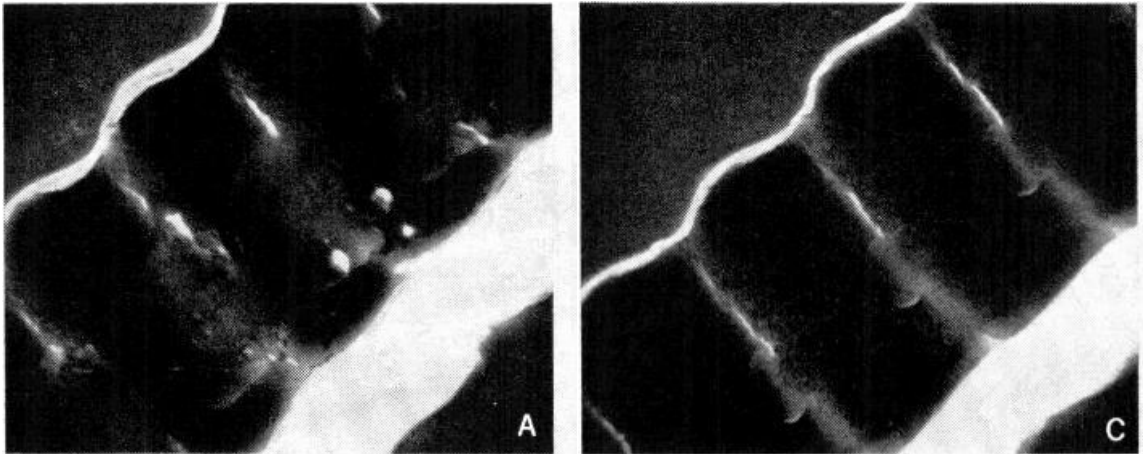
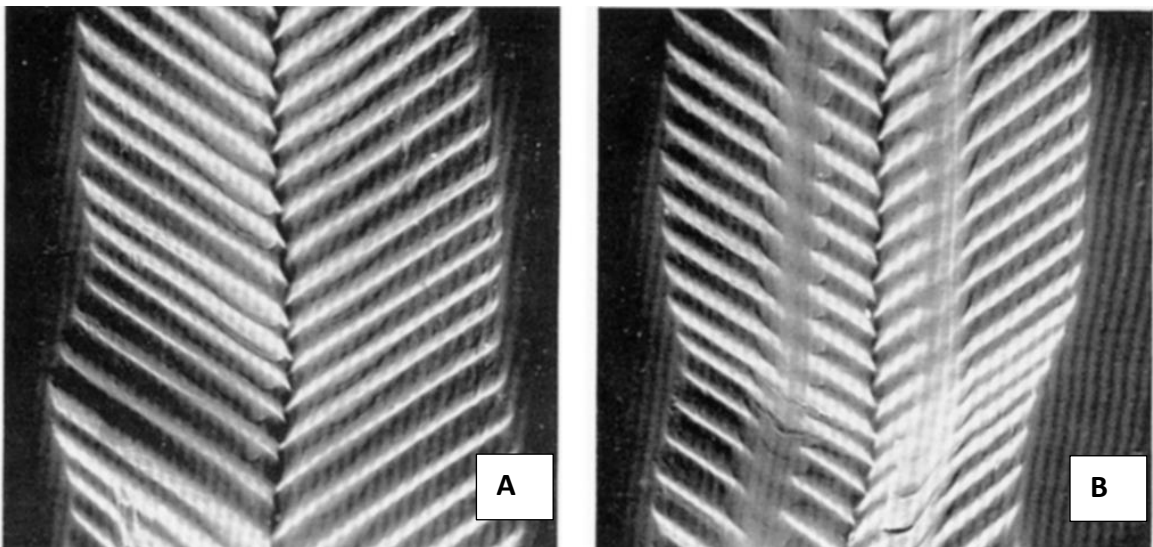

Figure 4 – Record Wear Spherical vs Elliptical Stylus – 50 Plays
Figure 5 – Record Wear Shibata vs Conical Stylus – 100 Plays
- I.6 Record wear is influenced by the stylus shape, vertical tracking force and the record material. **Figure 4** (circa 1968) shows groove wear caused by two different styluses after 50 plays obtained from *Record -Groove Wear, J G. Woodward, HiFi Stereo Review Magazine, October 1968 (37)*: Photo A shows the wear produced by a 0.7 -mil spherical stylus tracking at 5
grams. Photo C is a 0.2 x 0.7 -mil elliptical at 1.5 grams. The wear shown in **Figure 4** is permanent plastic deformation, but very little material has actually been removed.
- I.7 **Figure 5** (circa 1976) shows record wear of a long-wearing record material developed by RCA™ for the Shibata stylus and quadrasonic sound; from *RCA Engineer Magazine*, 1976, Issue 02-03, *Development of Compound for Quadradiscs*, by G.A. Bogantz S.K. Khanna (71). Photo A is a Shibata stylus at 1.5 gram after 100 plays, showing little or no wear. Photo B shows a Conical stylus at 4.5 grams after 100 plays, showing clean trenching. But RCA™ also showed significant wear with material from another vendor after just 25 plays with a Shibata stylus at 1.5 grams and just 10 plays with a Conical stylus at 4.5 grams after 10 plays.
- I.8 **One item to note is that highly contoured/profiled styluses such as Shibata can bridge the trench made by the conical or elliptical stylus allowing full fidelity playback.** Otherwise, the record wear in **Figure 4** and **Figure 5** can be accelerated by the cleaning method. Solvents and some aggressive concentrated aqueous cleaners can soften by swelling the leading edge of the side-wall ridges that could cause loss of high frequency fidelity as the stylus permanently smears the leading edge with accelerations over 1,000 g's and pressures equivalent to 20,000 pounds per square inch (psi) and greater that are influenced by the stylus shape and proportional to the vertical tracking force (VTF) (*source: Disc Phonograph Records by Dr. A. M. Max, RCA Engineer Magazine 1966-08-09 (1)*). Alternately, solvents and aggressive concentrated aqueous cleaners "may" extract components of the vinyl record leading to hardening of the leading edge of the side-wall ridges that could similarly cause loss of high frequency fidelity caused by premature record wear by the stylus. See **CHAPTER X. DISCUSSION OF MATERIAL COMPATIBILITY:** for detailed discussion of cleaning agent material compatibility.